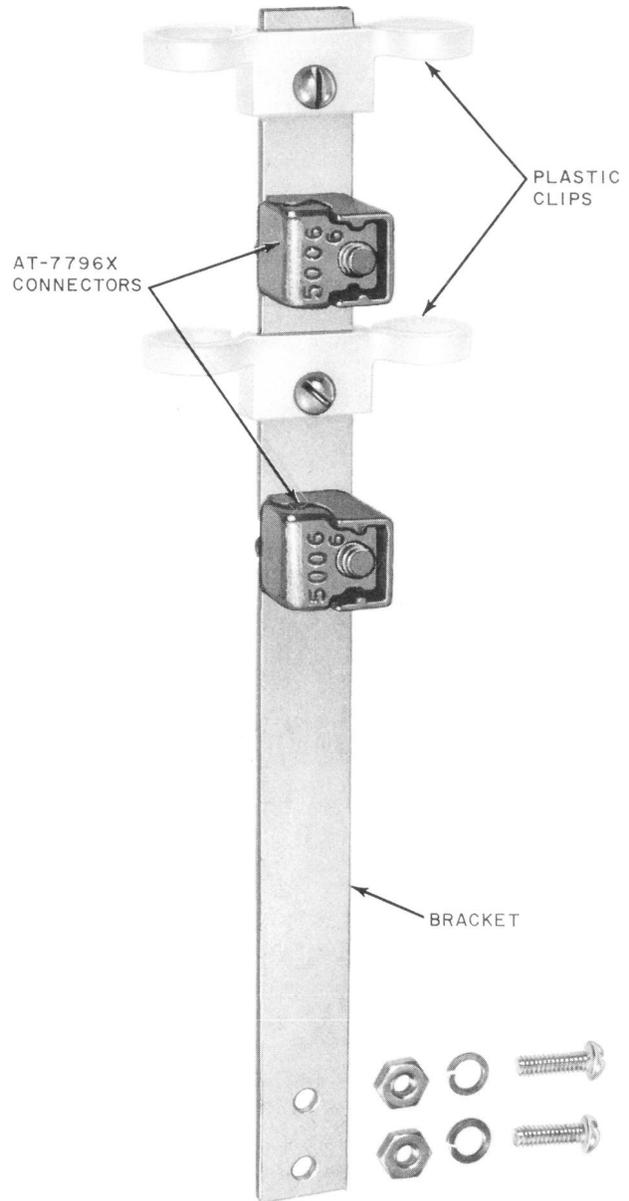

Fig. 28—Bracket Assembly for LD-Type Cable Closure
7.11 The bracket assembly (Fig. 28) used for terminating service wire in the LD-type cable closures must be ordered separately.